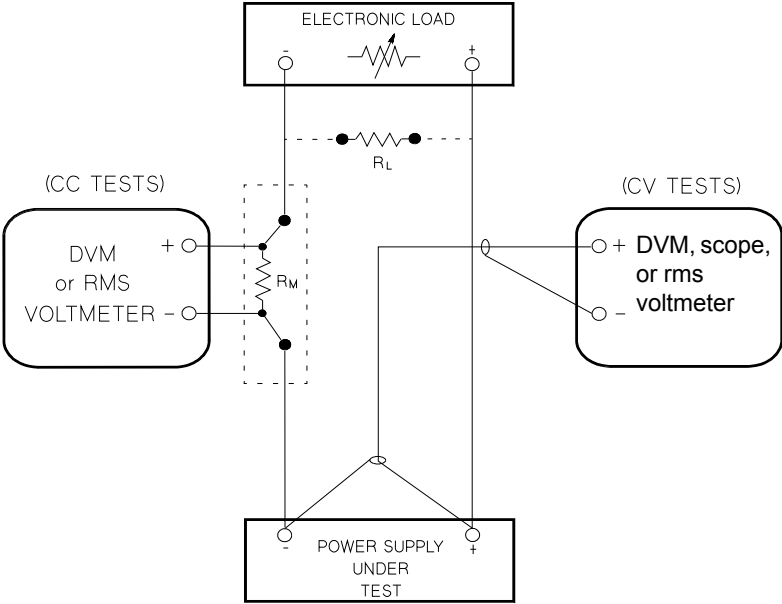
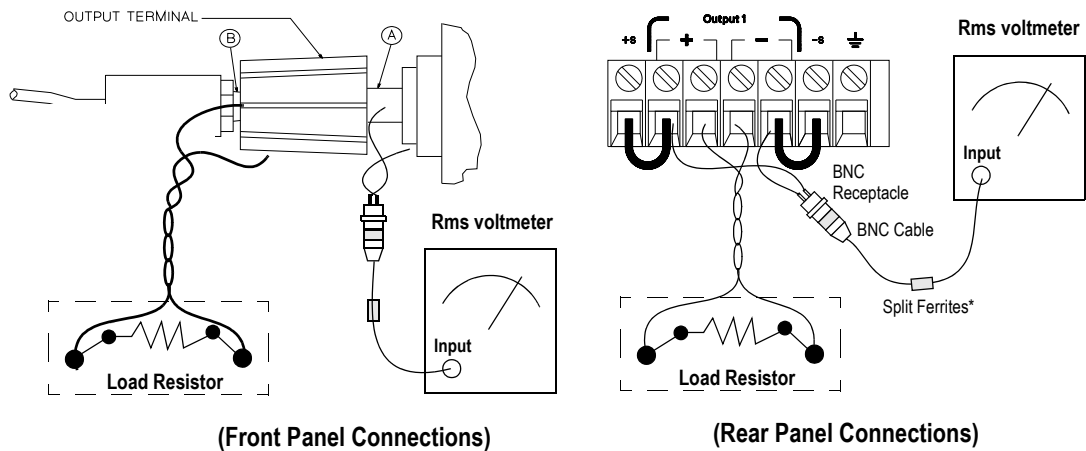

Figure 8-2 Performance verification test setup
Figure 8-4 CV PARD (ripple and noise)
Most tests are performed at the front terminals as shown in **Figure 8-2**. Measure the DC voltage directly at the (+) and (-) terminals on the front panel.
To eliminate the output current measurement error caused by the voltage drops in the leads and connections, connect the current-monitoring resistor between the (-) output terminal and the load as a four-terminal device. Connect the current-monitoring leads inside the load-lead connections directly at the monitoring points on the resistor element (Refer to R_M in Figure 8-2).
- 1 Turn off the power supply and connect a digital voltmeter between the (+) and (-) terminals of the output to be tested as shown in Figure 8-2.
- 1 Turn off the power supply and connect a digital voltmeter between the (+) and (-) terminals of the output as shown in Figure 8-2.
For better measurement results, it is recommended to make the connection between the BNC receptacle and the output terminals as short as possible, and to use the recommended split ferrites with the BNC-to-BNC cable as shown in Figure 8-4.
- 1 Turn off the power supply and connect the output to be tested as shown in Figure 8-2 to an oscilloscope (AC coupled) between the (+) and (-) terminals. Set the oscilloscope to the AC mode and bandwidth limit to 20 MHz. Connect a resistive load (13.5 Ω)^[1] to the terminal at **B** as shown in Figure 8-4.
- 5 Disconnect the oscilloscope and connect the AC rms voltmeter in its place according to the “V_{rms} measurement techniques” on page 200 and as shown in Figure 8-4. The rms voltage reading must not exceed the rms limit of 0.5 mV^[3] or 1 mV^[4].
- 1 Turn off the power supply and connect the output to be tested as shown in Figure 8-2 with an oscilloscope. Operate the electronic load in the constant current mode.